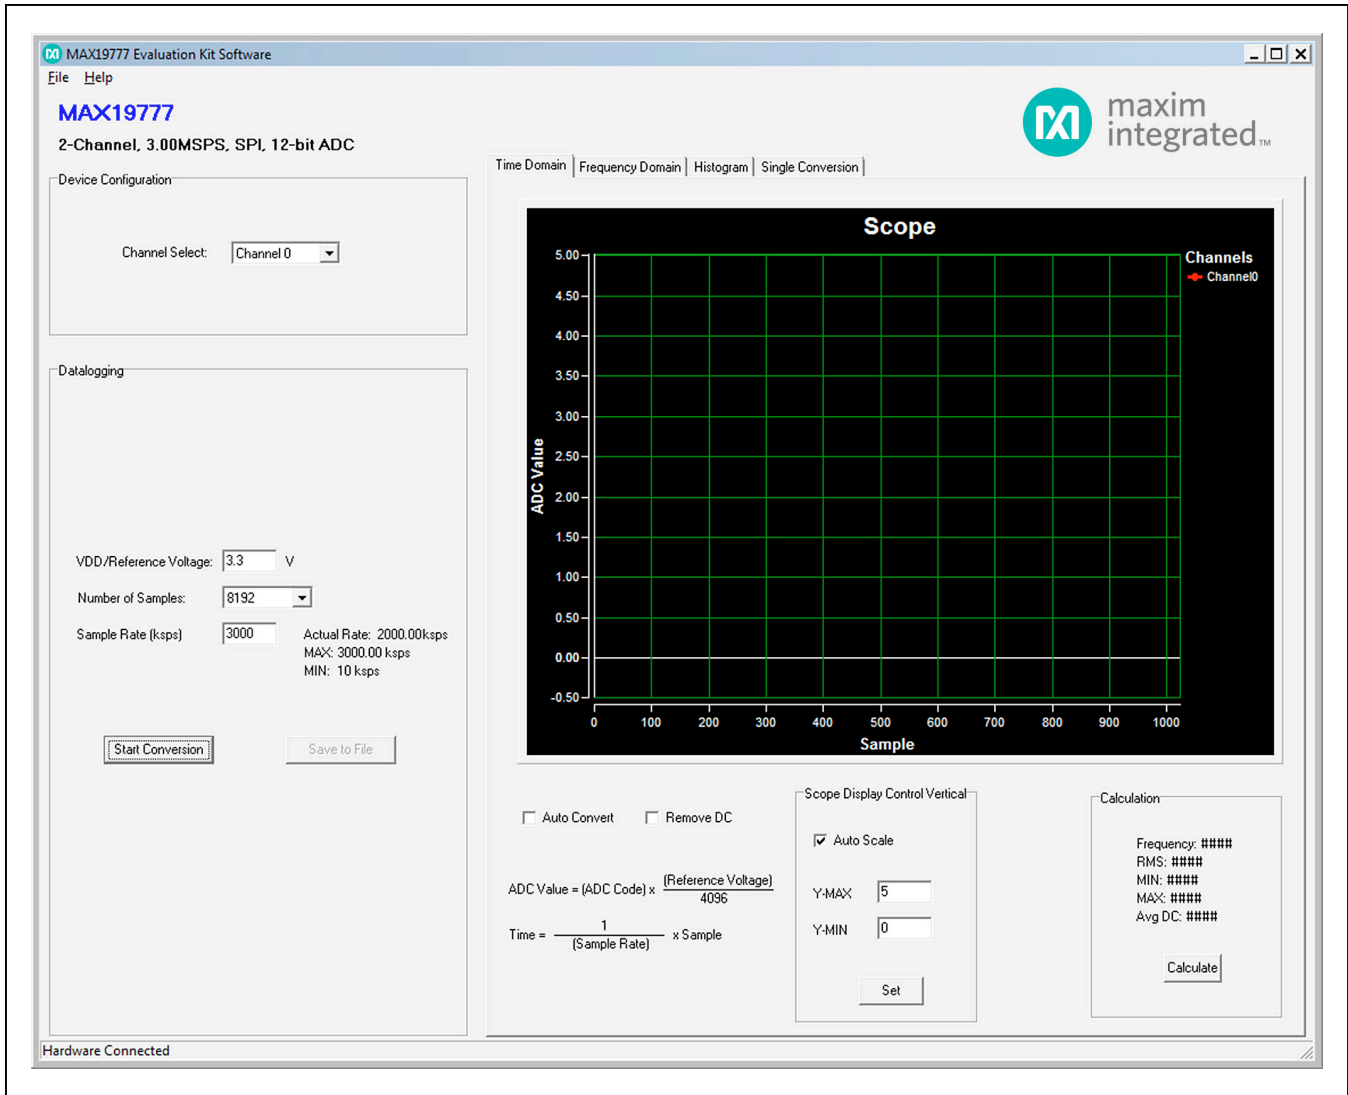

Figure 1. MAX19777 EV Kit Software Main Window
- 12) Start the EV kit software by opening its icon in the Windows **All Programs** menu. The EV kit software main window appears, as shown in Figure 1.
The main window of the evaluation software (Figure 1) contains a **Device Configuration** group box, a **Datalogging** group box, and four tab sheets to display the sampled data.